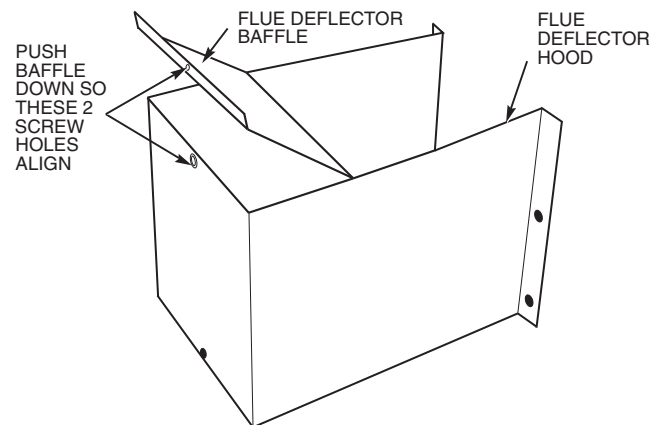
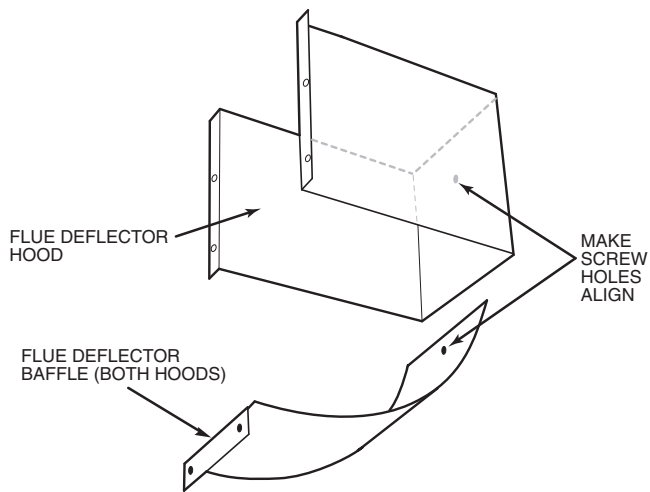

Fig. 62 — Flue Deflector Baffle (V-Type)
Fig. 63 — Flue Deflector Baffle (Curve-Type)
3. Install flue deflector baffle inside flue deflector hood. See Fig. 62 for V-type deflector and Fig. 63 for curve-type deflector. For V-type deflector, screw the baffle and hood